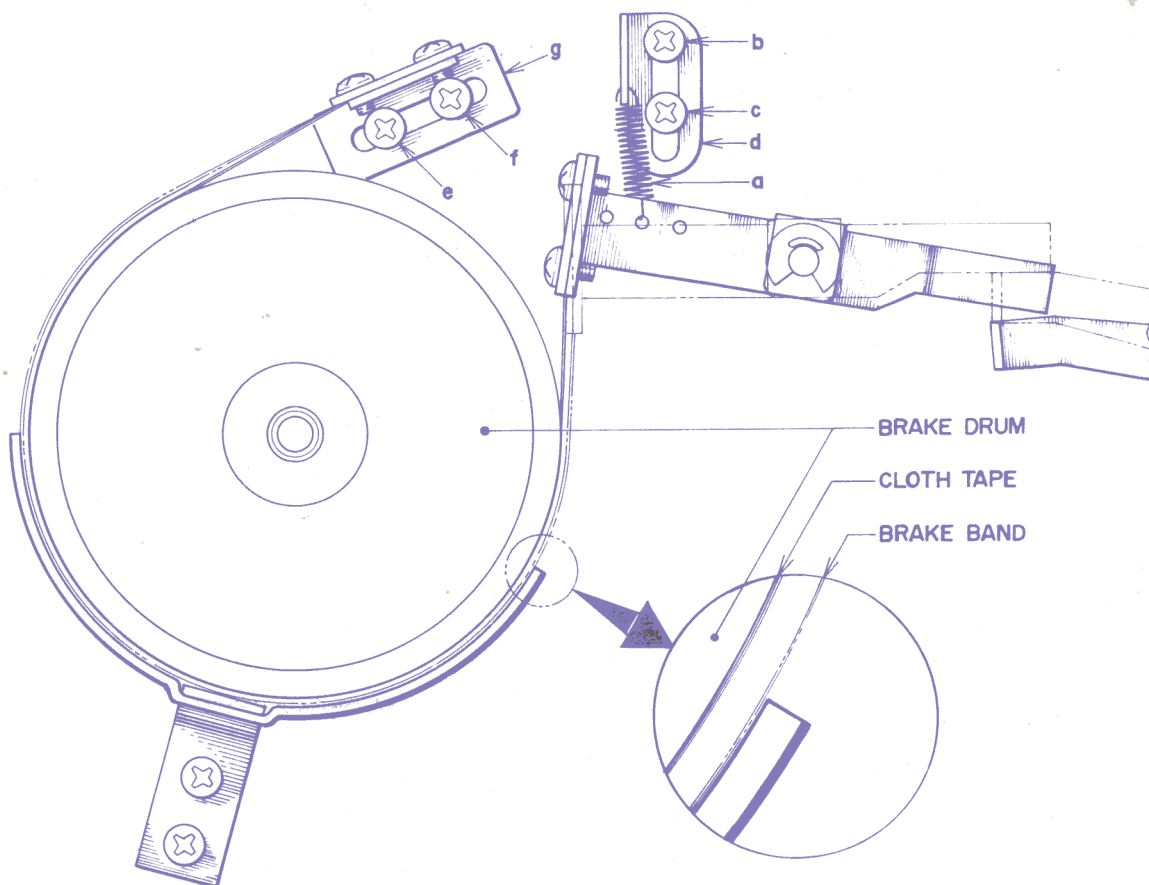

Fig. 15
- 2) Brake tension adjustment can be made as follows: (Refer to Fig. 15)
- d) Only the left side is shown in Fig. 15, but the right side must be adjusted in the same way.
NOTE: In making brake tension adjustment, at all modes except stop mode, confirm that the brake band completely separates from the cloth tape on the brake drum. (Refer to Fig. 15)